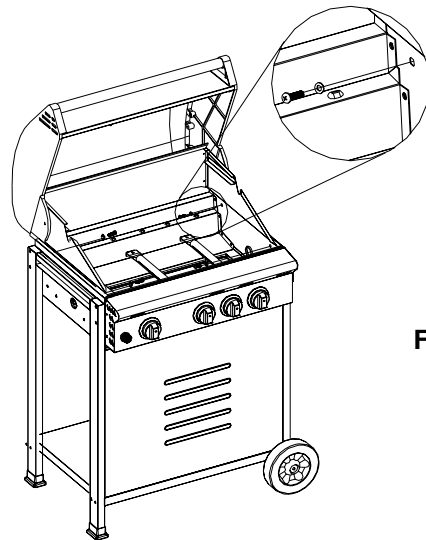

Figure 8
2. Attach grill head to the cart by using (4) 1/4 x 3/5" Phillips head screws with (4) 1/4" flat washers. (Fig.8)